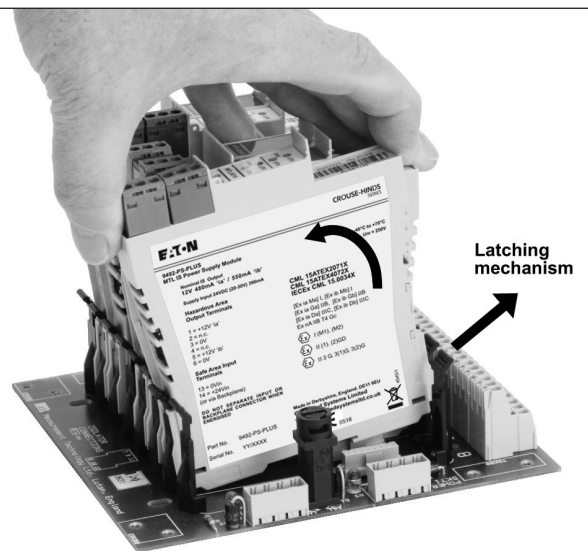

Figure 4.16: Removing power supplies from backplane
4.7.2 Module removal - Figure 4.16